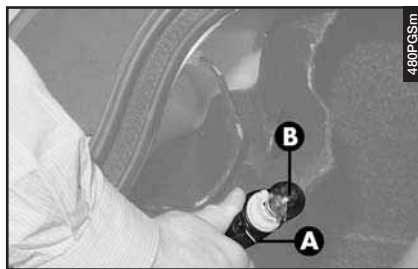

fig. 59
DIRECTION INDICATORS AND SIDE LIGHTS/STOP LIGHTS (fig. 59)
- Remove the bulb holder (A-fig. 59) turning counter-clockwise.
- Remove and replace the bulb (B) (spherical type with bayonet coupling) pushing gently and turning counter-clockwise.